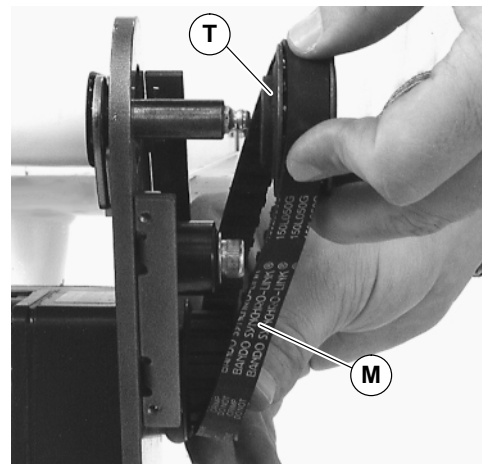

Figure 12
3. Remove timing belt (M of Figure 12).
NOTE: If timing belt does not slide over pulley flange, loosen driven pulley set screws (T of Figure 12) and remove pulley with belt. For re-installation, see steps 5 through 8 on page 5.
4. Remove timing belt (M of Figure 12).